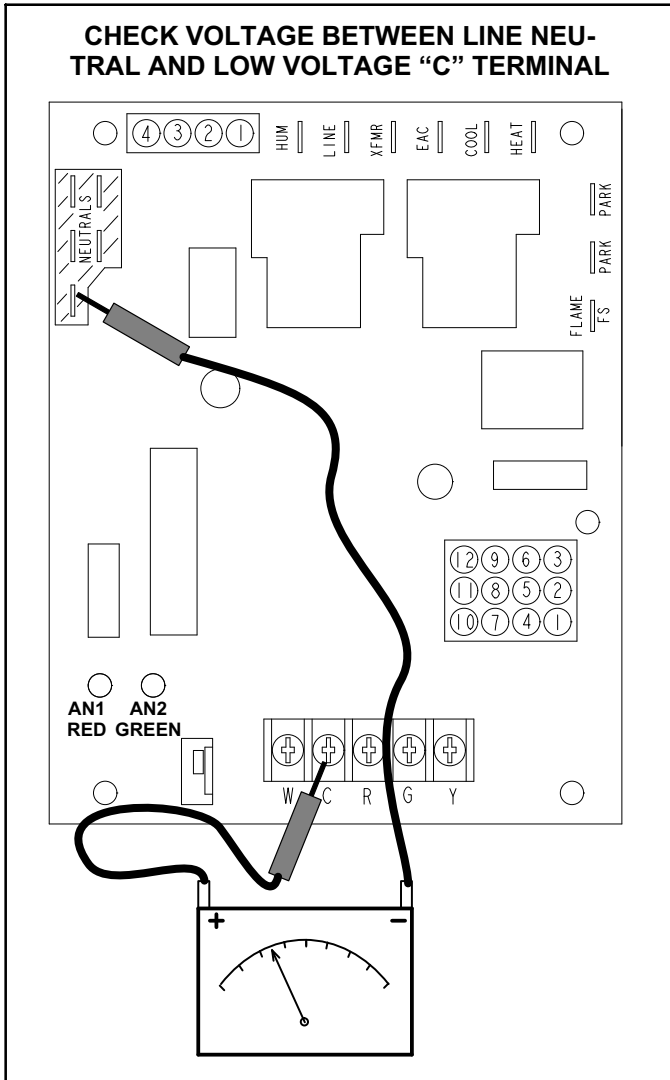

FIGURE 55
- 1 - Measure the AC voltage between Line Neutral (spade terminals) and "C" terminal (low voltage terminal block) on the integrated control. See figure 55. A wide variation in the voltage between Line Neutral and "C" as a function of load indicates a poor or partial ground. Compare the readings to the table below. If the readings exceed the maximum shown in table 1, make repairs before operating the furnace.